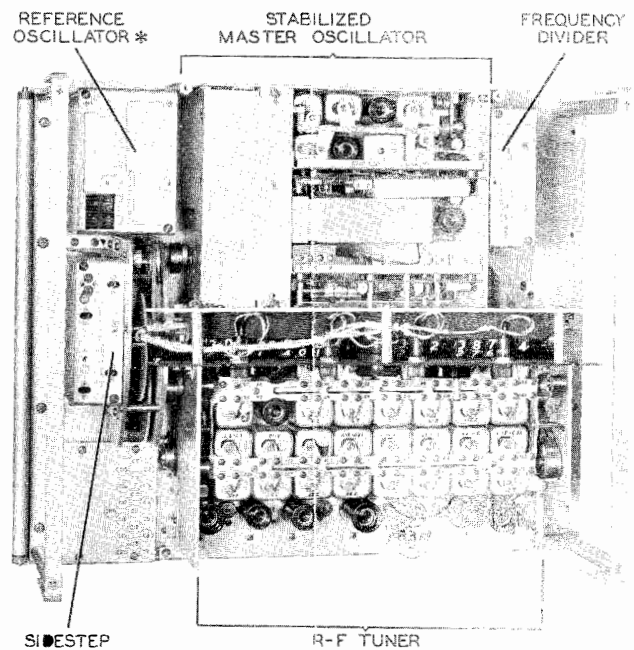

Figure 2. Five modules, two of which are optional\*, are contained in the 786E-1
The modules used in the 786E-1, illustrated in figure 2, are as follows: (1) Stabilized Master Oscillator; (2) R-F Tuner; (3) Frequency Divider; (4) Sidestep Oscillator (optional); and (5) Reference Oscillator (optional) or Isolation Amplifier (optional).